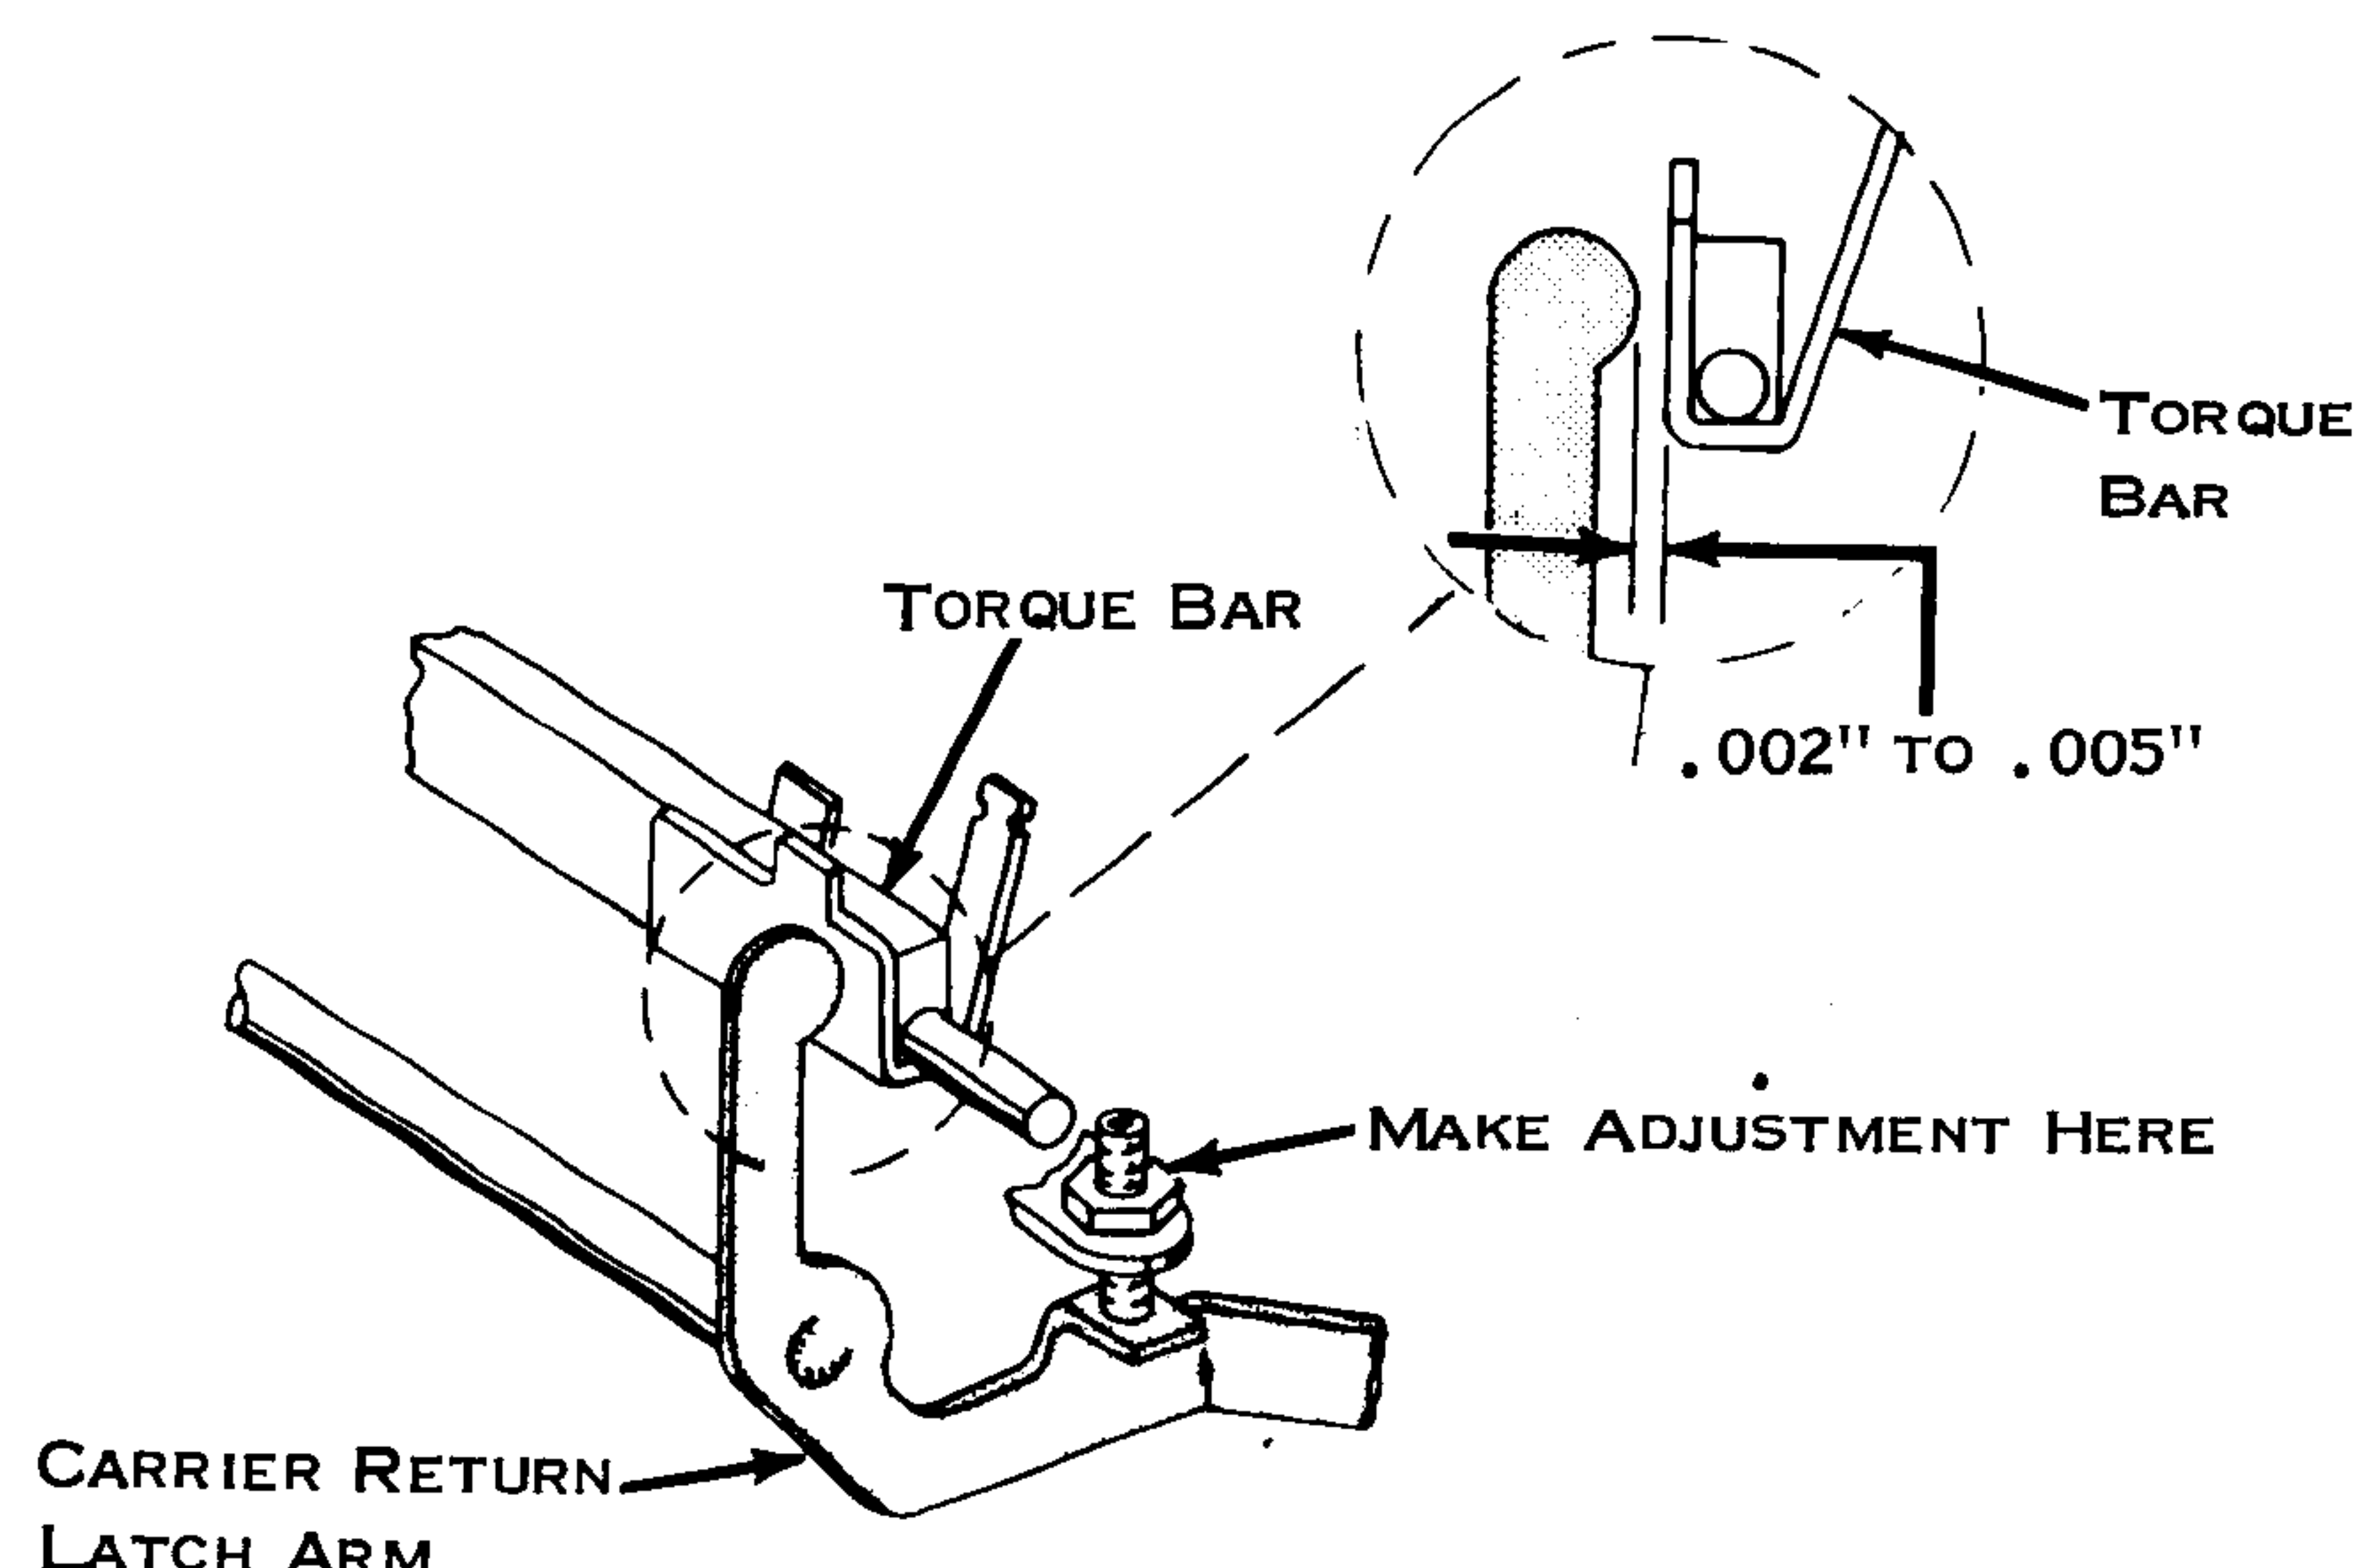

Figure 179. Carrier Return Latch Arm, 15" Machine
3. Carrier Return Latch Arm, 15" Machines Only (Fig. 179) - The adjusting screw should be adjusted so that a clearance of .002" to .005" exists between the arm and the torque bar.